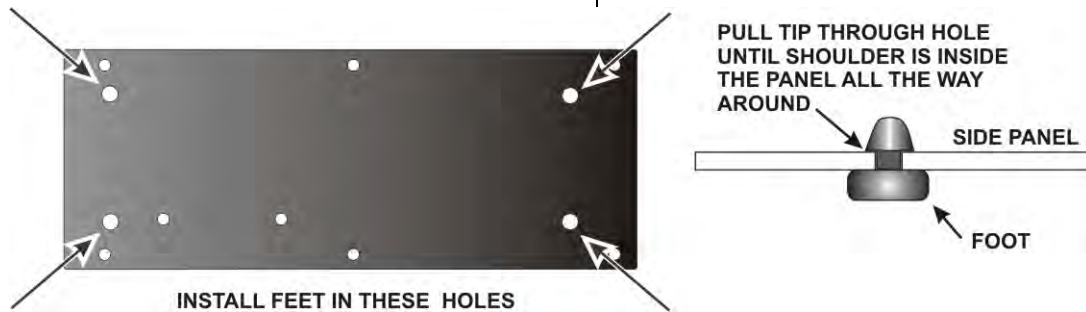

Figure 21. Installing Side Panel Feet.
Locate the two side panels. They are approximately 4" (10 cm) by 9-7/8" (25 cm) in size. Both panels have six counter-sunk screw holes near the edges. Note that the countersunk holes are farther from one end than the other. This is important. You will need to orient the panels correctly as you install them. The side panels are different as well. In addition to the six counter-sunk screw holes, the left side panel has two holes near the centerline for attaching the handle and three larger counter-sunk holes near the top edge. The left side panel with the handle attached is shown in Figure 16. The right side panel has six additional holes; four for mounting the side feet and two for attaching other parts inside the K3 (see Figure 21). Set the right side panel aside for now.
□ Install the four rubber side feet in the holes in the right side panel as shown in Figure 21. Two suggested procedures for doing this are as follows: